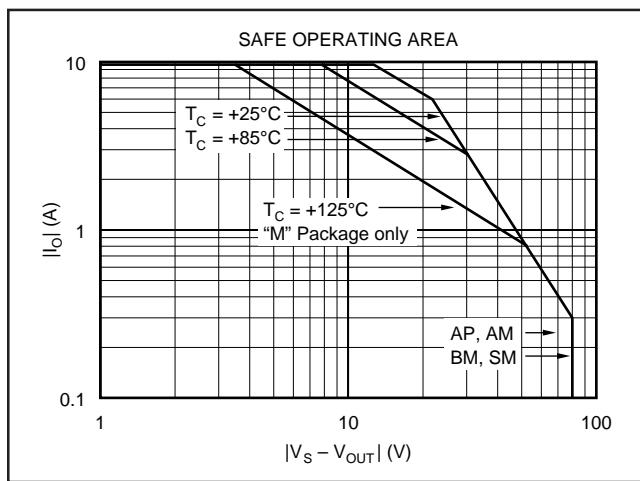

FIGURE 1. Safe Operating Area.
NOTE: (1) SOA is the Safe Operating Area shown in Figure 1. (2) Plastic package may require insulator which typically adds 1°C/W .
The safe operating area (SOA) plot provides comprehensive information on the power handling abilities of the OPA541. It shows the allowable output current as a function of the voltage across the conducting output transistor (see Figure 1). This voltage is equal to the power supply voltage minus the output voltage. For example, as the amplifier output swings near the positive power supply voltage, the voltage